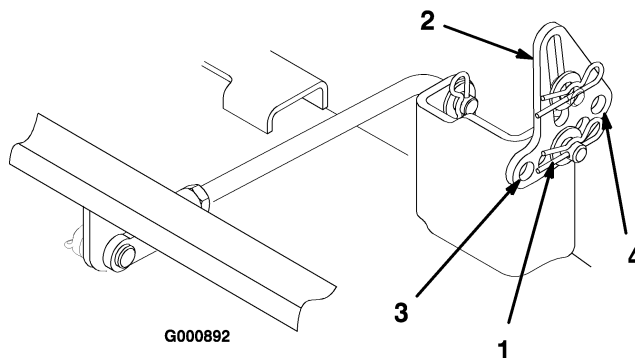

Figure 44
5. Remove the hairpin cotter and washer from the leveling bracket (Figure 44). To level the blade(s), reposition the leveling bracket(s) in a different hole and install the washer and
hairpin cotter. (Figure 44). A front hole lowers the blade height and a rear hole raises its height. Adjust both sides as required.